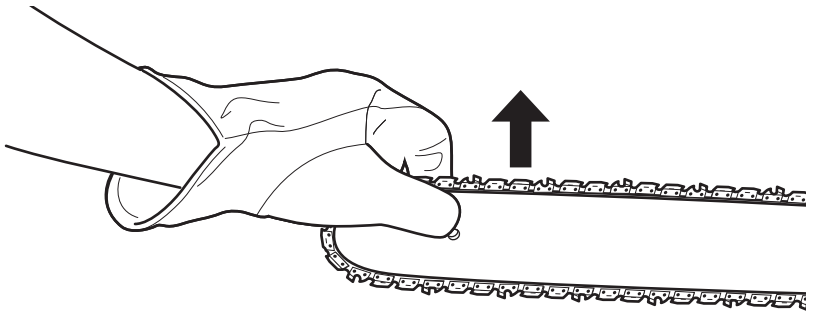
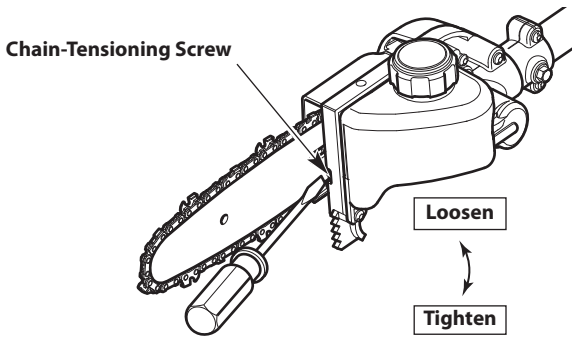

Fig. 19
Fig. 20
2. Hold the guide bar tip up (Fig. 19) and use a flat-head screwdriver to turn the chain-tensioning screw (Fig. 20).